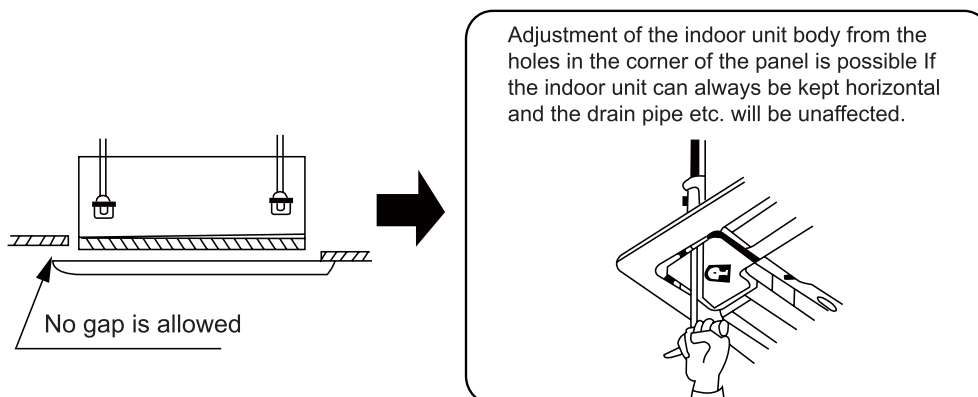

Figure 3-1-47
(8). If gap still exists between ceiling and decoration panel after tightening the screws, readjust the height of the indoor unit. (Figure 3-1-47)